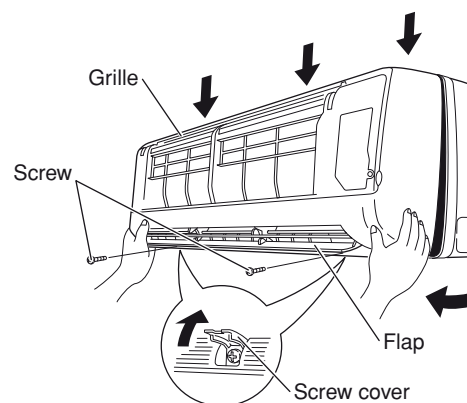

Fig. 17-1
- (2) Remove the 2 screws where the screw covers are open. Grasp the grille on both bottom sides, and pull it towards you slightly. (Fig. 17-1)
- (3) Press the 3 tabs on the top of the grille to disengage them. (Fig. 17-1)
- (4) Pull the grille towards you to remove it. (Fig. 17-1)